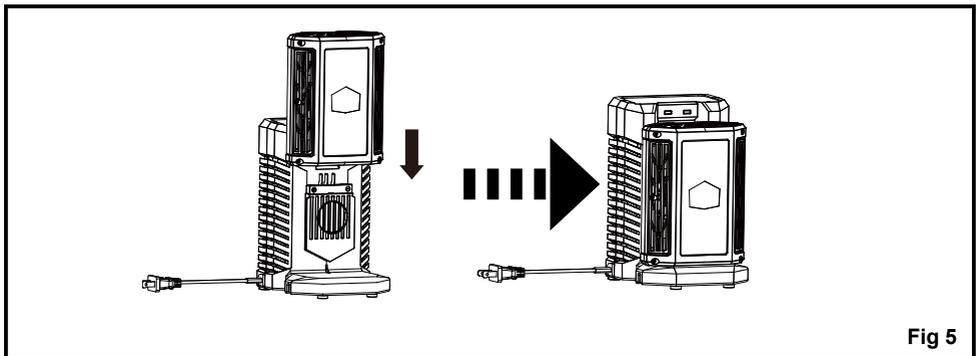

Fig 5
CHARGING THE BATTERY PACK (See Figure 5)
- Align the slot of the battery pack with the rail on the charger. Slide the slot onto the rail until the battery pack secures into place (Fig. 5).